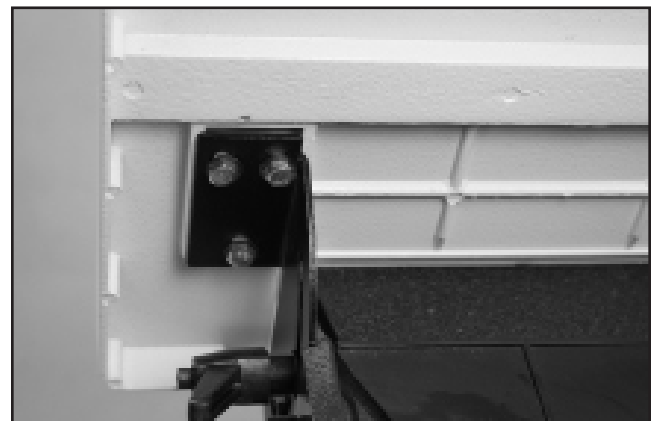

Fig. 6
2. Loosen the six hex bolts under the table support brackets (Fig. 6).